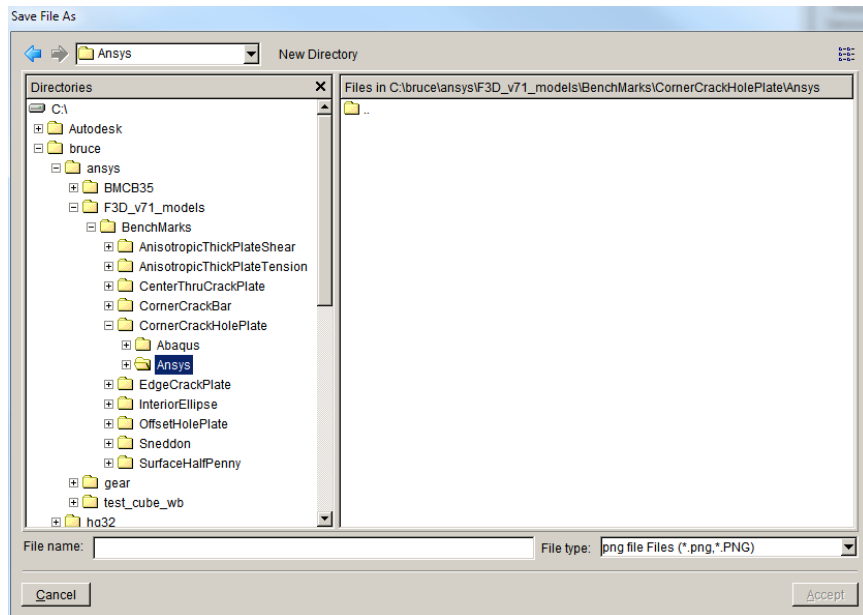

Figure 2.1.5 Save File As dialog.
**Capture:** This button displays the **Save File As** dialog, Fig 2.1.5. The current view of the model is captured and saved to a file. Either a *.png* or *.jpg* file can be saved.